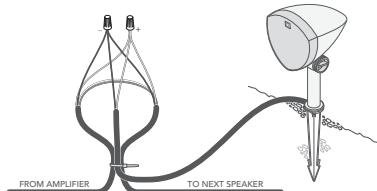

Figure 5
8. Cut the correct two wires for the left or right speaker (see the tables below) and strip 3/4" of insulation on the exposed ends of the burial wires, then strip 3/4" insulation from the ends of the corresponding speaker's pigtail (see Figure 5).
9. Create a loop of approximately 10", and use a wire tie to hold the wire loop and speaker pigtail in place to provide strain relief (see Figure 5).